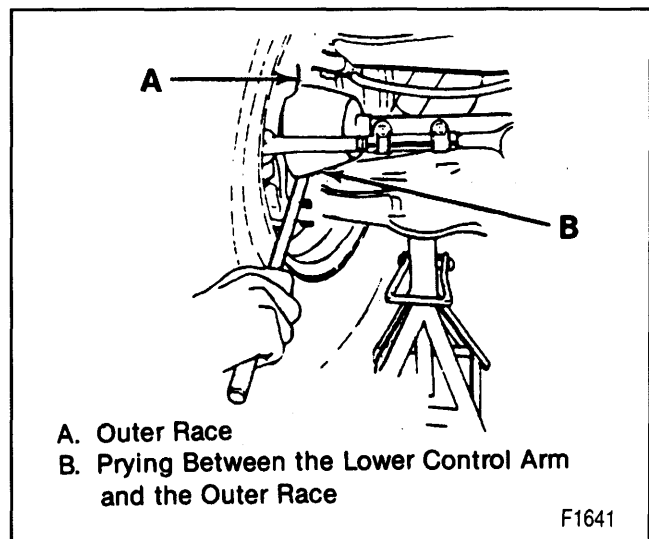

Figure 4—Checking Ball Joint Vertical Looseness
- Pry between the lower control arm and the outer race while reading the dial indicator. This will show vertical looseness in the ball joints (figure 4).